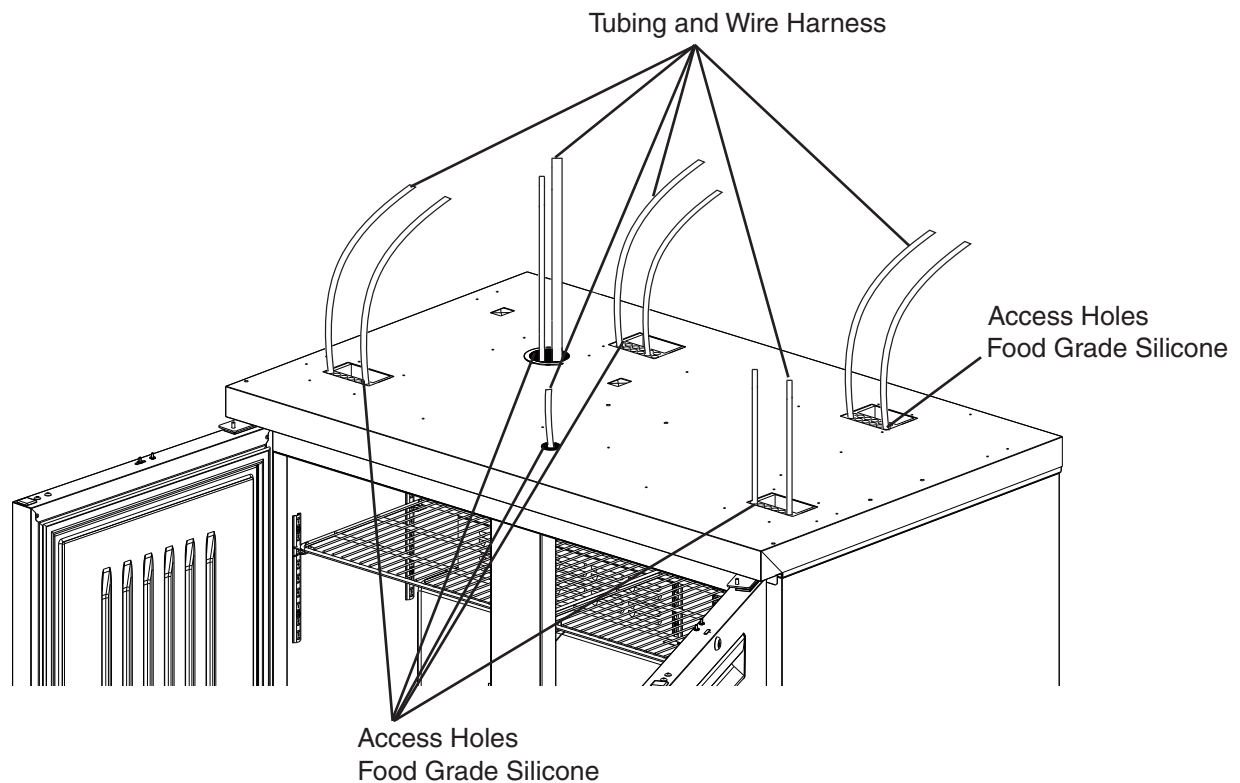

**Fig. 36**
This model is provided with access for tubing and wire harness. See Fig. 36.
- 2) Seal the access holes with food grade silicone. See Fig. 36